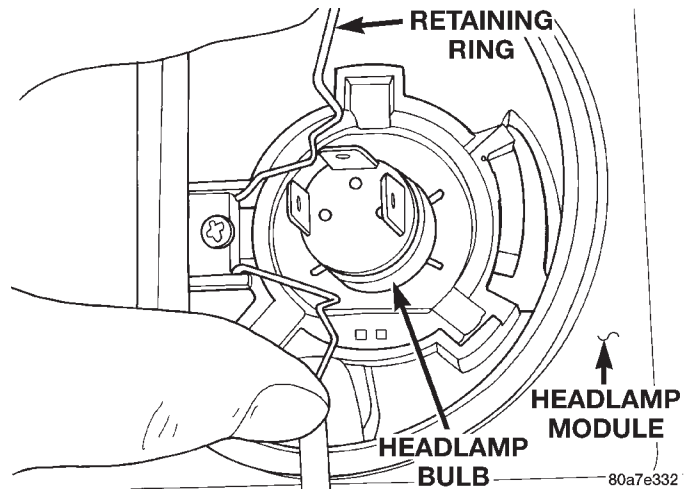

Fig. 2 Headlamp Bulb Retaining Ring
- (6) Disengage retaining ring from headlamp module (Fig. 2).